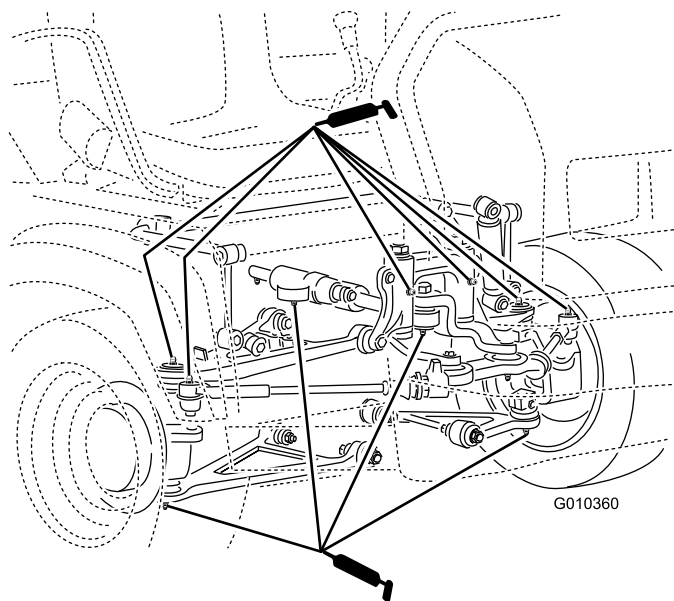

Figure 28
- **Ball joints (4);** refer to Figure 28
- **Tie rods (2);** refer to Figure 28
- **Pivot mounts (2);** refer to Figure 28
- **Steering cylinder (2);** refer to Figure 28